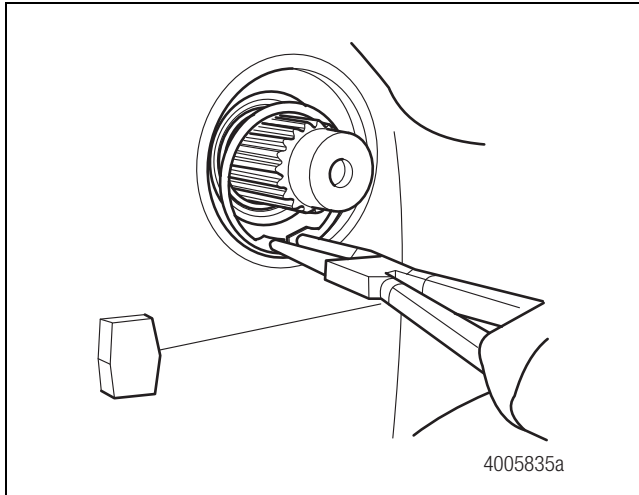

Figure 5.8
7. Install the spacer and snap ring onto the shaft. Figure 5.8.